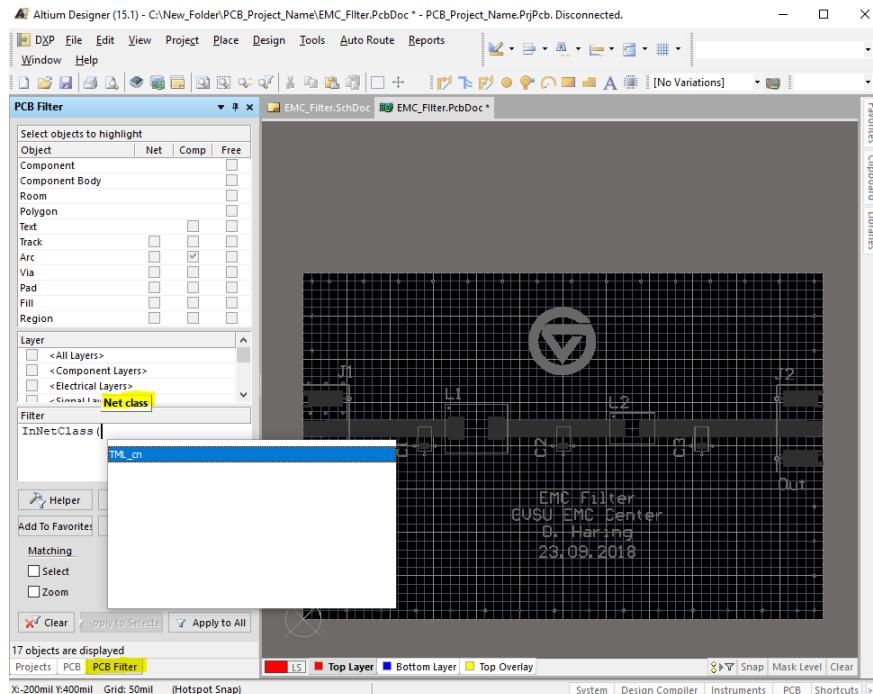
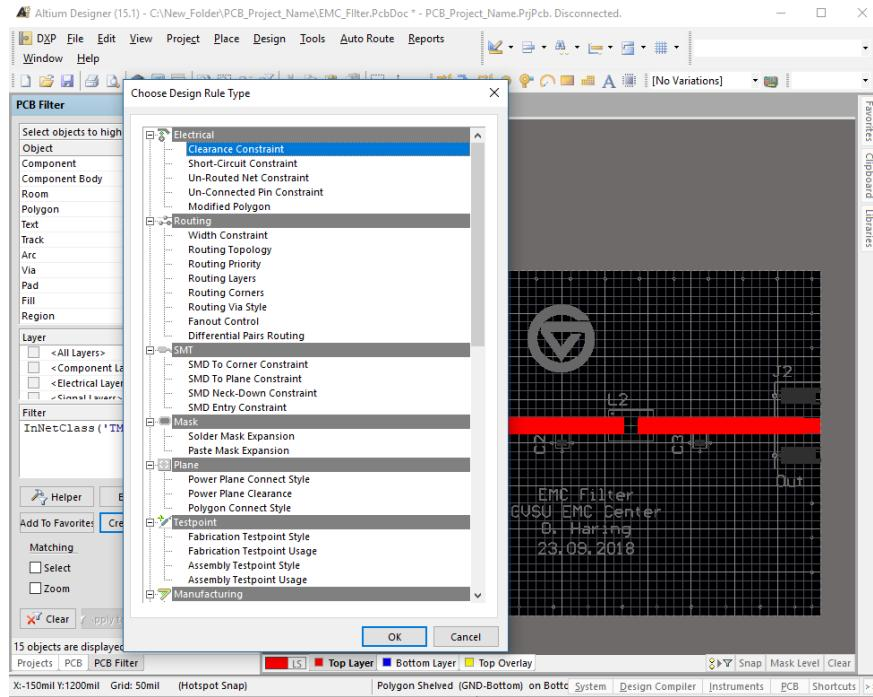
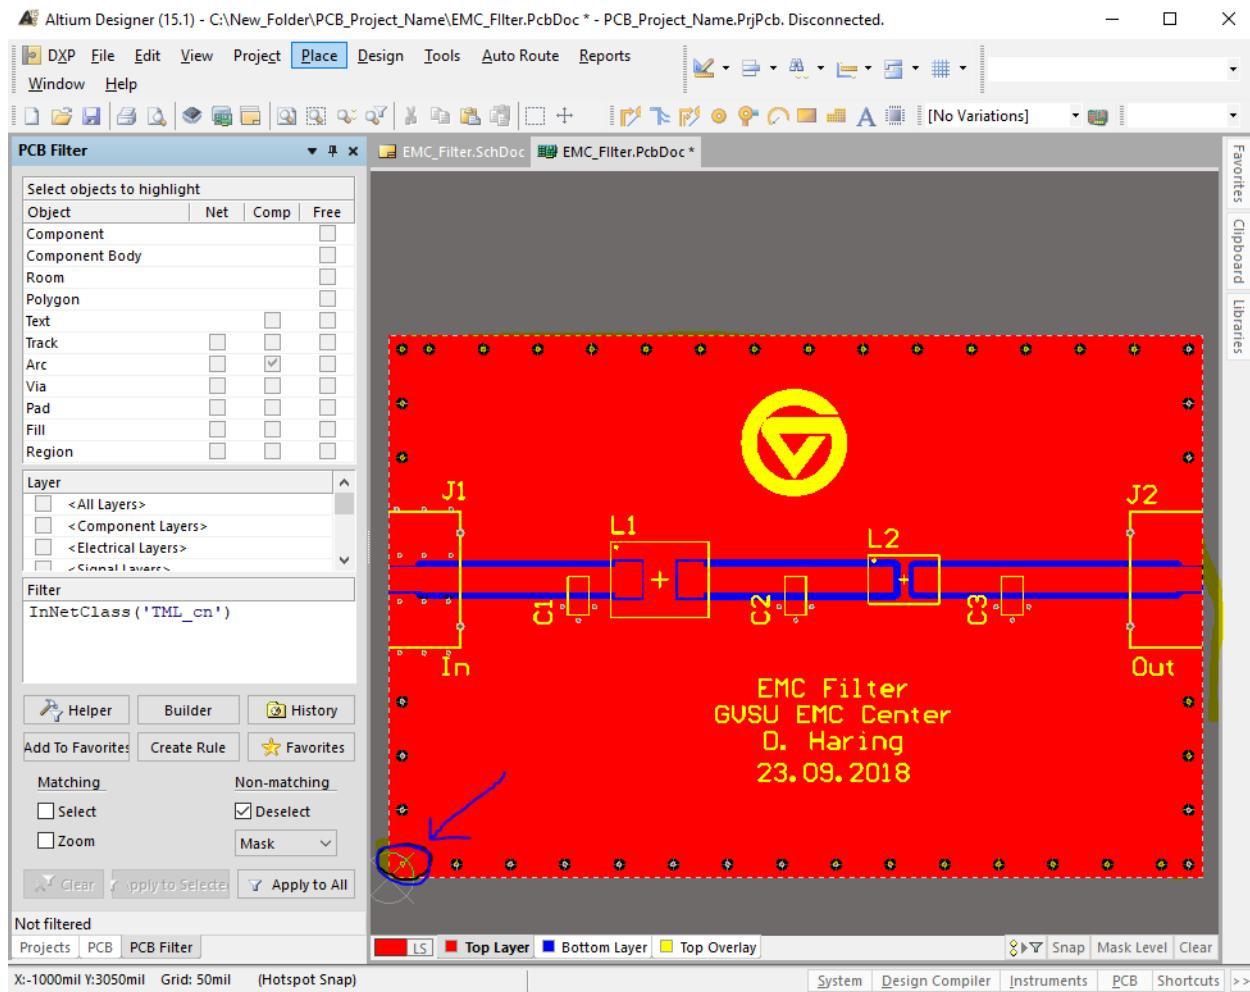

Figure 91: Altium PCB GDP Polygon Manager Dialog.
Figure 92: Altium PCB GDP PCB Filter Create Rule
Figure 94: Altium PCB GDP Created Clearance Rule for TMF_cn net class.
53. In terms of building query's which is one of the most important concepts of Altium take a look at the PCB filter view which allows you to use querys or design querys that can be used to build rules. Therefore we will use our predefined Net Class named TML_cn an filter for that. To do so you can use the query InNetClass('TML_cn'), as shown in Figure 91, and write that into the PCB Filter and press the button Apply to All. The nets that are in the net class TML_cn are highlighted. Now you can make a rule out of it by press Create Rule button and chose Clearance Constraint, as shown in Figure 92. Press OK which opens the PCB Rules and Constraints Editor in which you see there is a new clearance rule named Clearance_1 which you will rename to Clearance_TML.cn. You can see that the query defined in the PCB Filter is here written into the First Object Matches. Now the clearance distance is the same right now as the the general rule for all objects. To change the clearance between region and Pour polygons set the highlighted number from 10 mil clearance to 30 mil clearance. Press Apply and OK to close the dialog. In PCB Filter view press the Clear button to clear the filter selection. Now un-shelf the polygons with the polygon manager and repour (re-calculate the polygon shape with the new rules or changes made to it) the top polygon. Your screen should look similar to Figure 94, notice the blue marked via that is connected to ground while the rest of the board edge distributed vias is not connected to ground. This happens because a via that is copied does not have a net and if it does not hit a net while it is pasted into the document it will remain as no net. This happened because as I copied the vias the bottom and top polygon was shelfed.